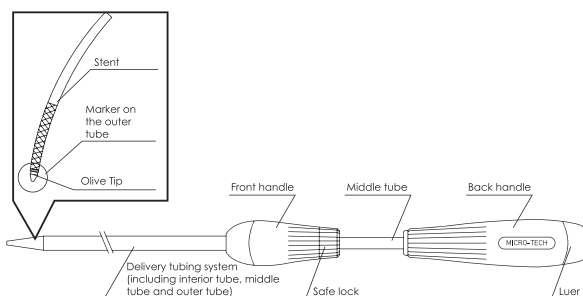

Fig.1a OTW Intestinal Stent Delivery System
- The Intestinal Stent Delivery System comprises of two components: the implantable metallic stent and the delivery system (refer to Fig. 1a, 1b, 1c). The stent is made of Nitinol wire by weaving in a tubular mesh shape. This shape design can make the stent more flexible, compliant and self-expanding. The delivery system consists of three coaxial tubes. The outer tube serves to constrain the stent until being retracted during the stent deployment. Radiopaque marker bands situated on the inner and outer tubes aid in imaging during the deployment. The inner tube contains a central lumen that accommodates a 0.035 inch/0.89mm guide wire.